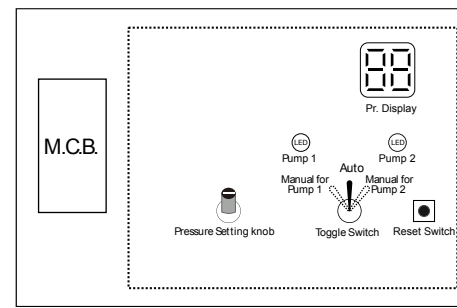

Fig.1 Control Panel
4. Control Panel's (fig.1) functions are described below:
- ① Set Point - The Set point of the pressure is set by turning the pressure setting knob. On turning the knob, display starts blinking and shows the set-point. It again shows the actual pressure when it is left idle for 15secs.
- ② Auto Mode - Pump switches OFF when the pressure exceeds the set-point and is switched ON, as the pressure goes below (one bar) the set-point. If the pressure is not achieved in 15mins, the pump will switch OFF and after 1min other pump will start to achieve the required pressure.
- ③ Manual Mode - Operation can be switched from Auto mode to Manual mode for Pump 1/ Pump 2 by the toggle switch. In manual mode, the pump operates continuously for 30mins, then stops for 10mins before restarting.
- ④ Alarm - A NO contact of relay is provided for the alarm which closes when an alarm is raised. In case of alarm, press reset key to clear alarm or switch OFF & then switch ON the mains.